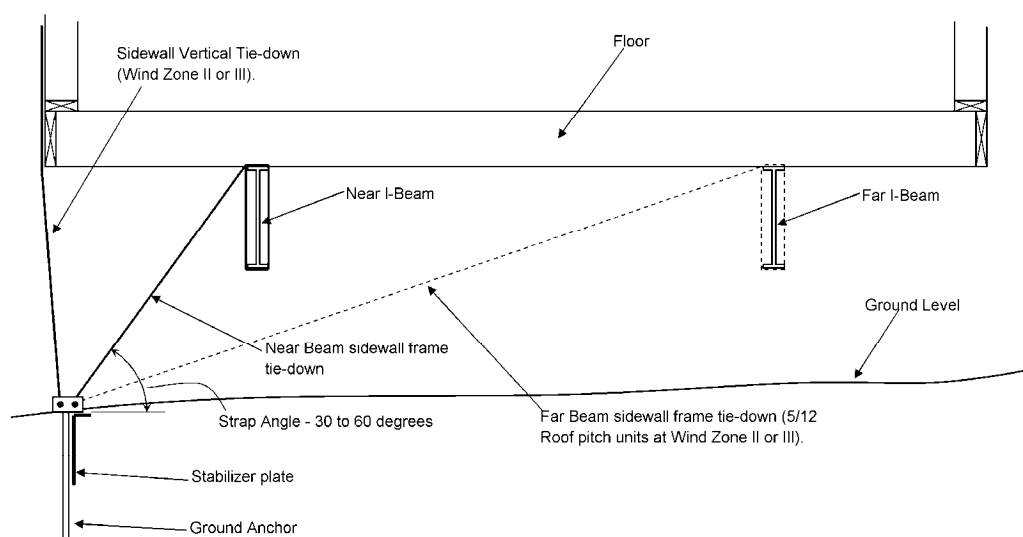

Figure 71. Lateral tie-down configurations
When straps are connected only to the near I-beam, (**Figure 71**) the angle the strap makes with the ground should be between 30 degrees and 60 degrees. Angles greater than 60 degrees may require closer anchor spacing.
- **Near Beam Method.** Connect an anchor strap from the anchor head to the beam closest to the anchor. (**Figure 71**). In addition for Wind Zones II and II, connect a vertical sidewall strap from the sidewall of the home to the anchor head using a double-headed anchor.
- **Far Beam Method.** Connect an anchor strap from the anchor head to the outside beam. (**Figure 71**). In addition for Wind Zones II and II, connect a vertical sidewall strap from the sidewall of the home to the anchor head using a double-headed anchor. The far beam method is only required for